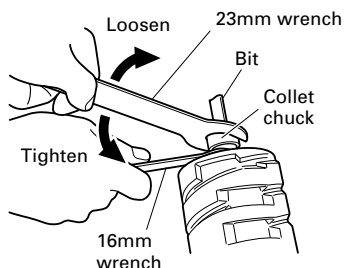

Fig. 2
- (2) Clean and insert shank of bit into the collet chunk until shank bottoms, then back it out approximately 2 mm.
- (3) With the bit inserted and 16 mm wrench holding the armature shaft, use the 23 mm wrench to firmly tighten the collet chuck in a clockwise direction (viewed from under the router). (**Fig. 2**)